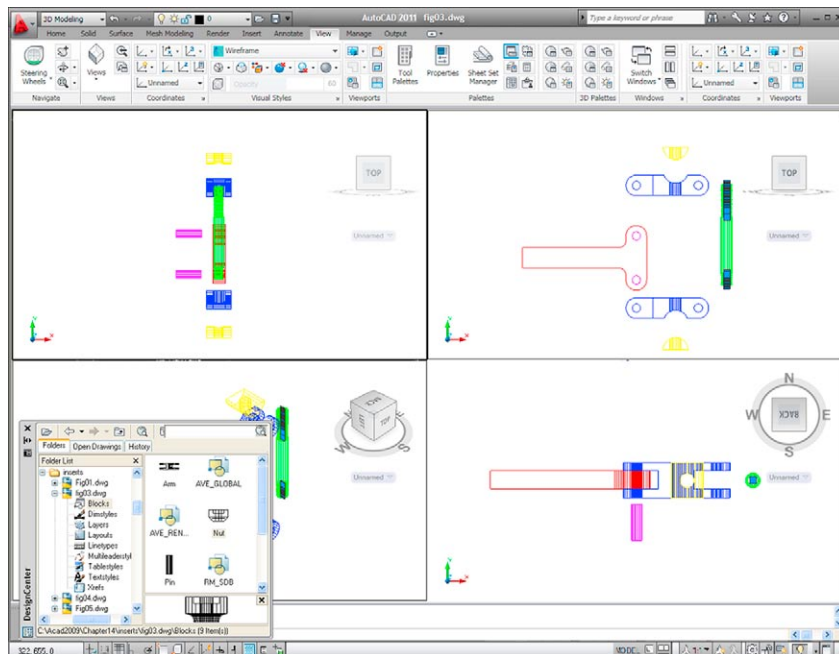

Fig. 14.3 First example – inserting 3D blocks
6. Drag and drop the blocks one by one into one of the viewports on screen. Fig. 14.3 shows the **Nut** block ready to be dragged into the **Right** viewport. As the blocks are dropped on screen, they will need moving into their correct positions in suitable viewports using the **Move** tool from the **Home/Modify** panel.
4. The examples of a **Four: Equal** viewports screen shown in Figs 14.3 and 14.4 are in **first** angle. The front view is top right; the end view is top left; the plan is bottom right.